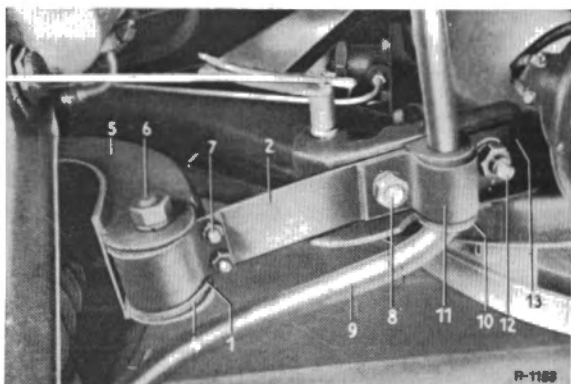

Fig. 33-3/3
Modification: Fig. 33-3/3 corrected
1. Loosen the two hexagon screws (clamping screws) (7) on the flat spring (2) for the front axle longitudinal support (Fig. 33-3/3).